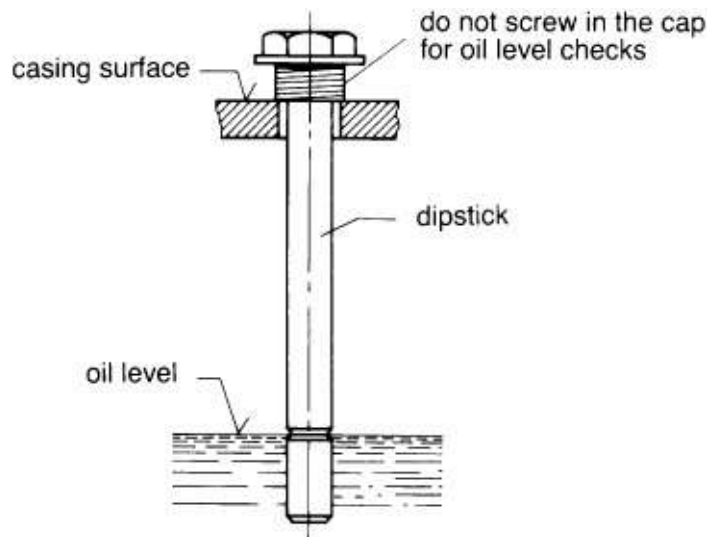

FIGURE 8-22. *Checking the oil level on a Hurth transmission. (Courtesy Hurth)*
- Periodically check the oil level (see Figure 8-22). Unless there is a leak, it